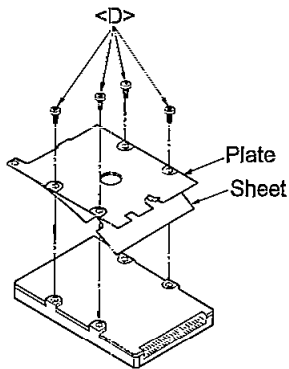

Figure 12
- (6) Remove four screws ($\text{Ø}3 \times 5 \text{ mm}$) then remove the Plate and Sheet as shown in Figure 12.